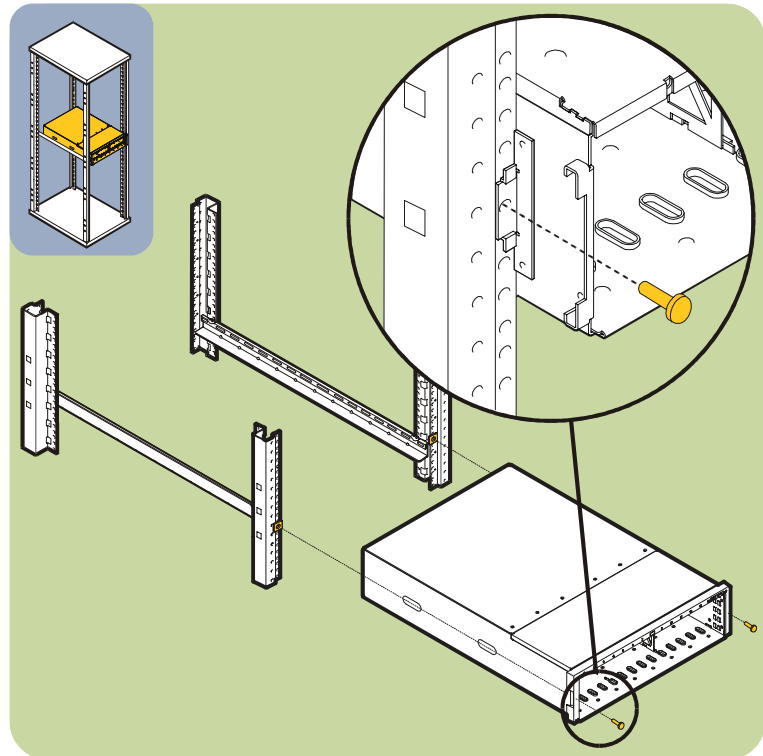

Fig. 16. Sliding the array into HP Rack System/E
8. Place the array on the rails and slide it all the way to the rear. (see Fig. 16).